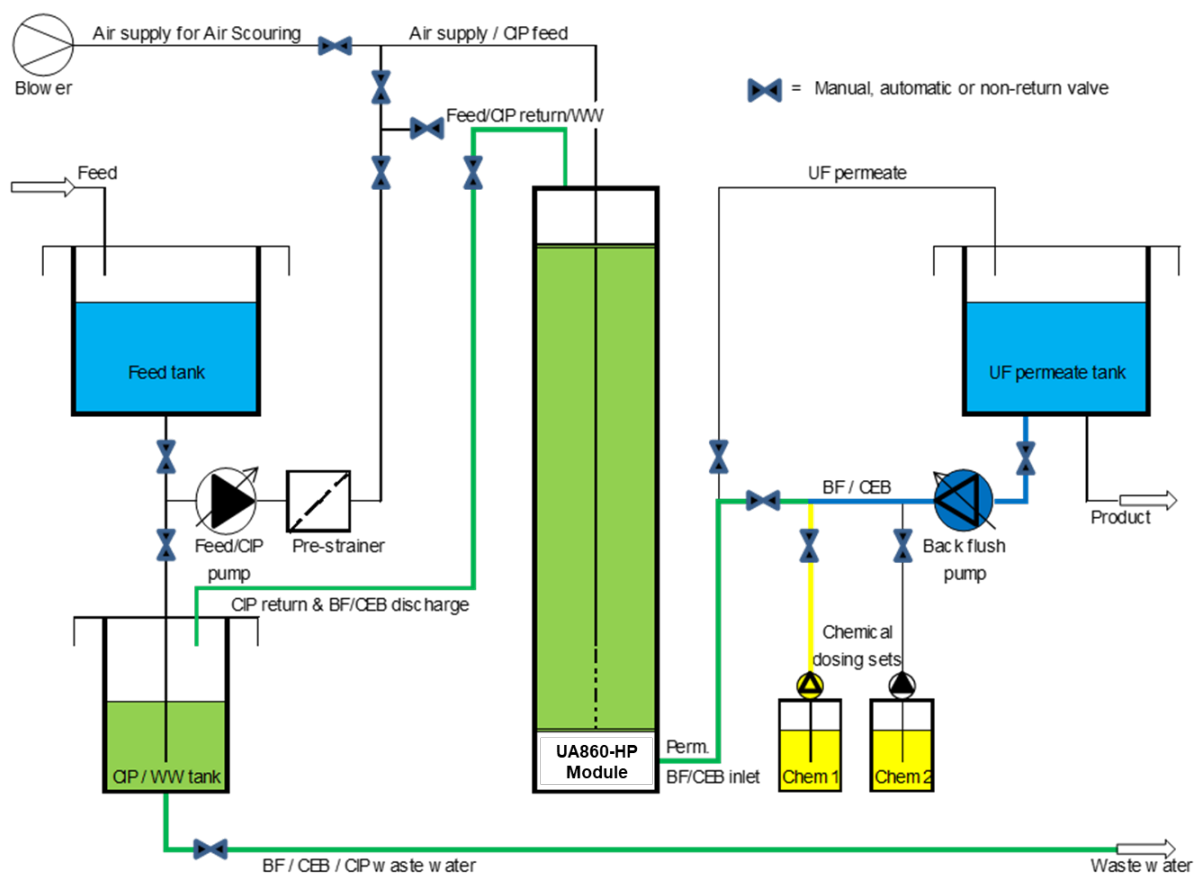

Figure 10. Introduction of chemicals (chem 1) to the system during CEB
1. Chemical dosing during backwash (Figures 10 & 11)